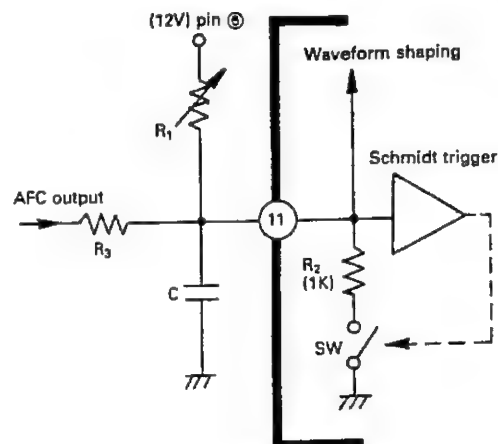
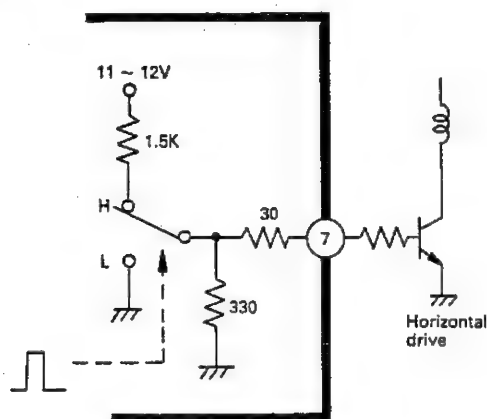

Figure 21-1.
Figure 22.
The horizontal oscillation circuit is composed of a time constant circuit (R_1 and C in connection with pin ⑪), Schmidt trigger circuit and R_2 (see Fig. 21-1).
The oscillation waveform available at pin ⑪ is sliced by the voltage of 7V to produce a horizontal pulse (see Figs. 21-1 and 21-2), which goes out of pin ⑦. The output impedance of pin ⑦ is different depending upon whether the incoming signal is at High or at Low level; the difference is outlined in Fig. 22.